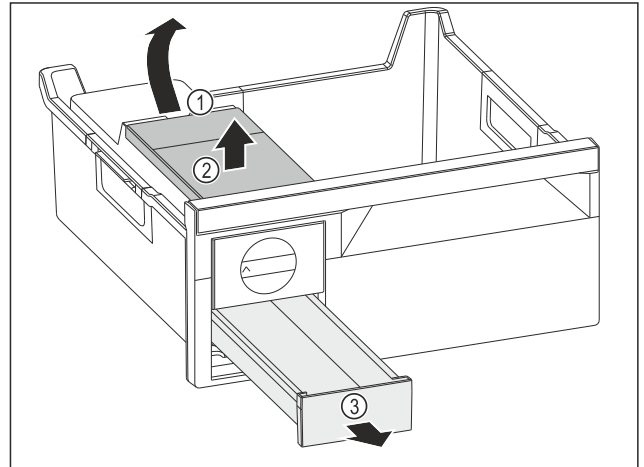

Fig. 133
- ▶ Removing the water tank: Lift the water tank at the recess Fig. 133 (1).
- ▶ Remove the water tank Fig. 133 (2) upwards.
- ▶ Remove the ice cube tray Fig. 133 (3) from the front.